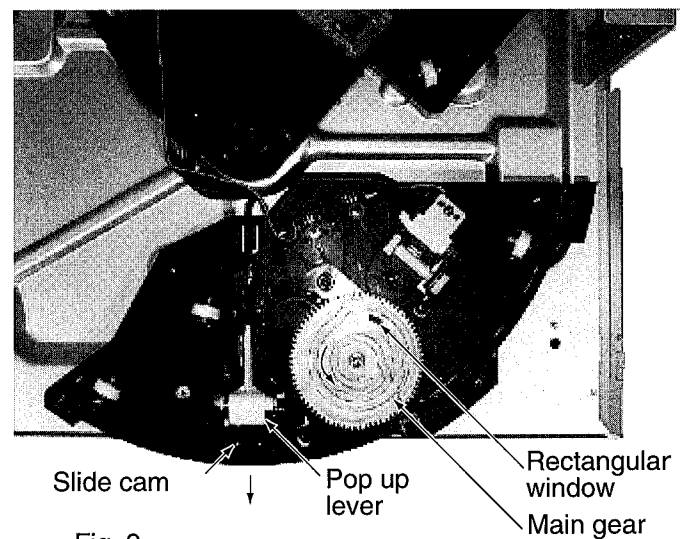

Fig 9
- 2) Mount (by screws) the main gear such that the rectangular window faces in the direction shown in figure 9.